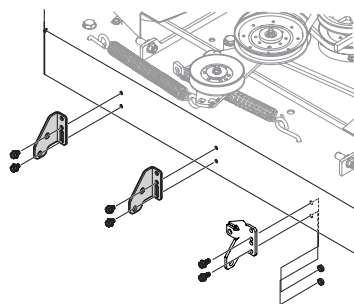
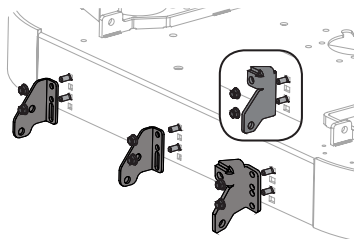

Figure 2
Figure 3
1. Locate the six holes on the back of the deck. See Figure 2 for 2016 and older models and Figure 3 for 2017 and newer models.
- a. Using the four hex washer screws (#5), install the two rear roller mount brackets (#3) as shown in Figure 2.
- b. Install the RH rear roller mount bracket (#2 for 54" and 60" decks) using two hex washer screws (#4) and two jam lock nuts (#7) as shown in Figure 2.
- a. Using four carriage bolts (#10) and four flange lock nuts (#11), install the two rear roller mount brackets (#3) as shown in Figure 3.
- b. Install the RH rear roller mount bracket (#2 for 54" and 60" decks, #9 for 48" deck, see inset of Figure 3) using two carriage bolts (#10) and two flange lock nuts (#11) as shown in Figure 3.